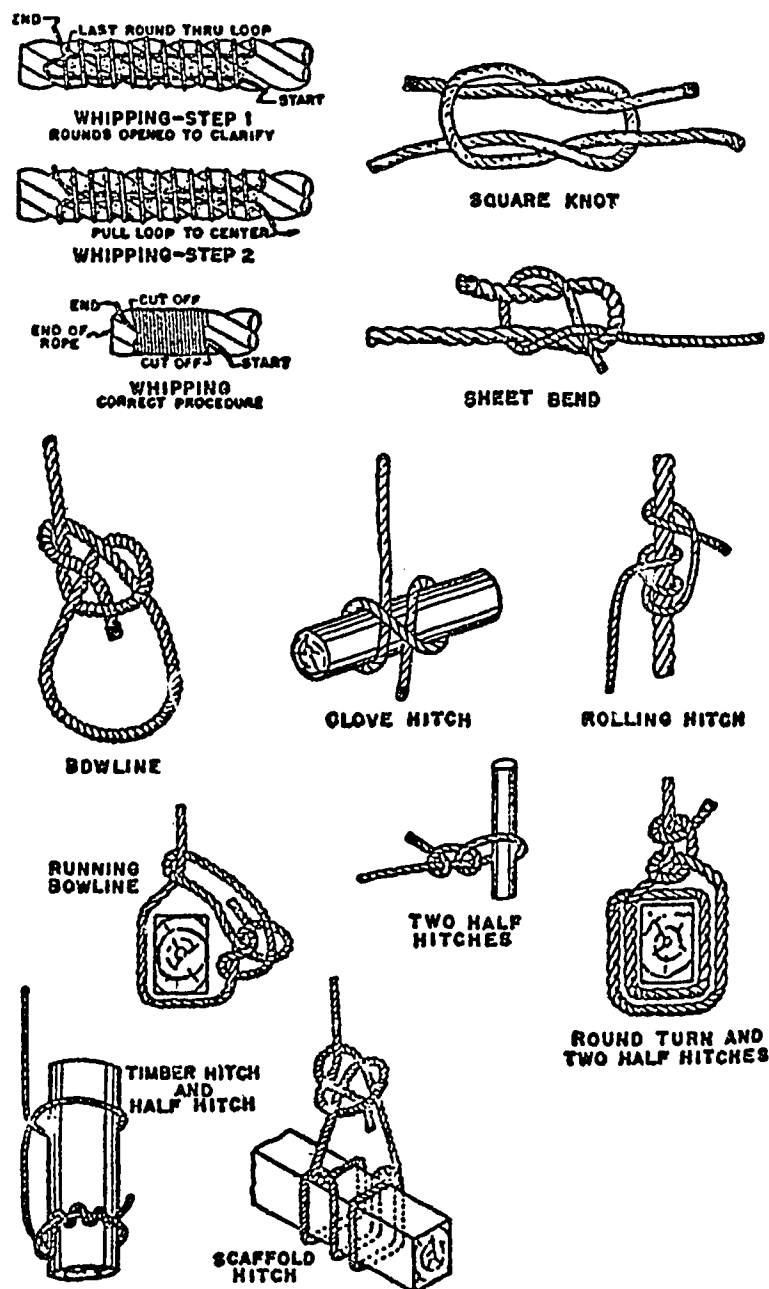

Figure 25. Knots and Hitches Used in Painting Operations.
(1) Store ropes and cables coiled in dry empty drums.
(2) Use wire rope at least $\frac{3}{4}$ inch diameter for platform slings; use manila rope at least $\frac{5}{8}$ inch diameter in bosun chairs and life lines. Use proper clamps with wire rope, and proper knots and hitches when handling materials with manila rope. (See Figure 25.)
(3) Inspect ropes frequently. Discard if exposed to acid or excessive heat. Check for dry rot, brittleness or excessive wear. Never use frozen rope.
(4) Inspect all wire ropes and cables frequently in accordance with current service safety criteria.
(5) Do not attempt to salvage rope or cable by splicing.